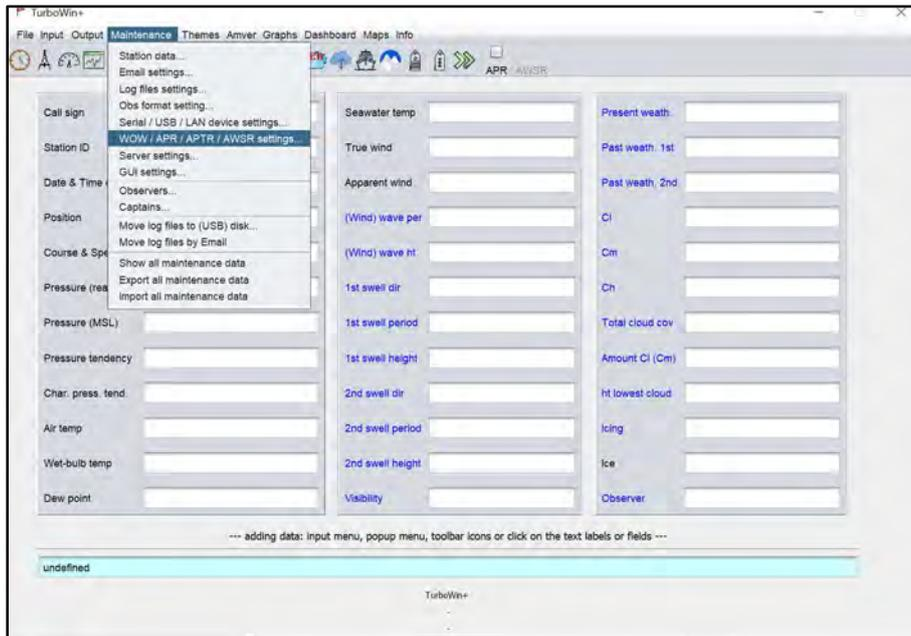

Figure 6: WOW/APR/APTR/AWSR Settings
4. To activate automated reporting, go to the menu bar and select **Maintenance >> WOW / APR / APTR / AWSR settings** (Figure 6). Enter the administrator password (see Annex 1) to login.